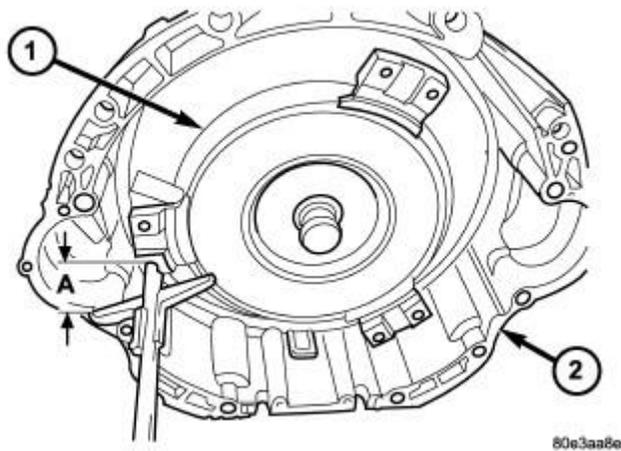

Fig. 217: Measuring Torque Converter Installation Depth
6. Check converter seating with a scale and straightedge. Refer to **Fig. 217**. Surface of converter lugs should be at least 19 mm (3/4 in.) to rear of straightedge when converter is fully seated.